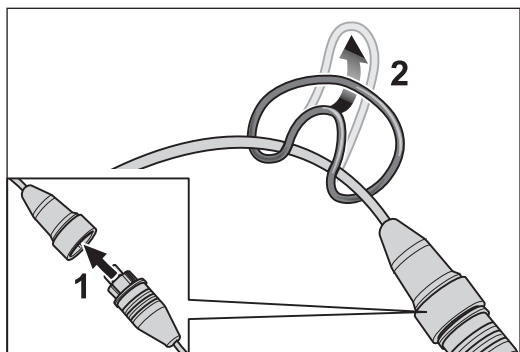
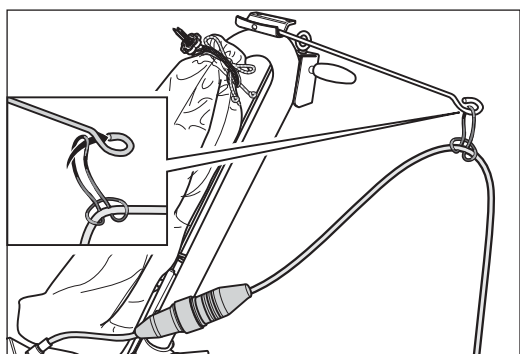

Fig. 13 Combine the motor cable with the extension cable (1). Fasten the strain relief ring on the extension cable (2).
Fig. 14 Mount the strain relief ring on the cable support.
- 2 Combine the motor cable with the extension cable (Fig. 13, 1).
- 3 Fasten the strain relief ring on the extension cable (Fig. 13, 2). Mount the strain relief ring on the cable support (Fig. 14).